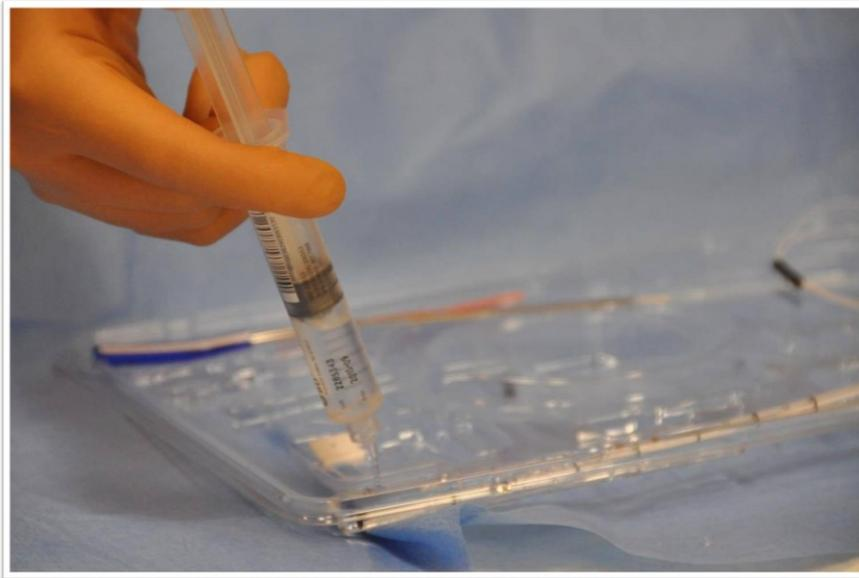

Figure 7: Physician submerges catheter horizontally under sterile saline and sterile field
- Neurosurgeon holds the catheter steady in a **horizontal** position, submerged in 3 inches of sterile saline (Figure 7).